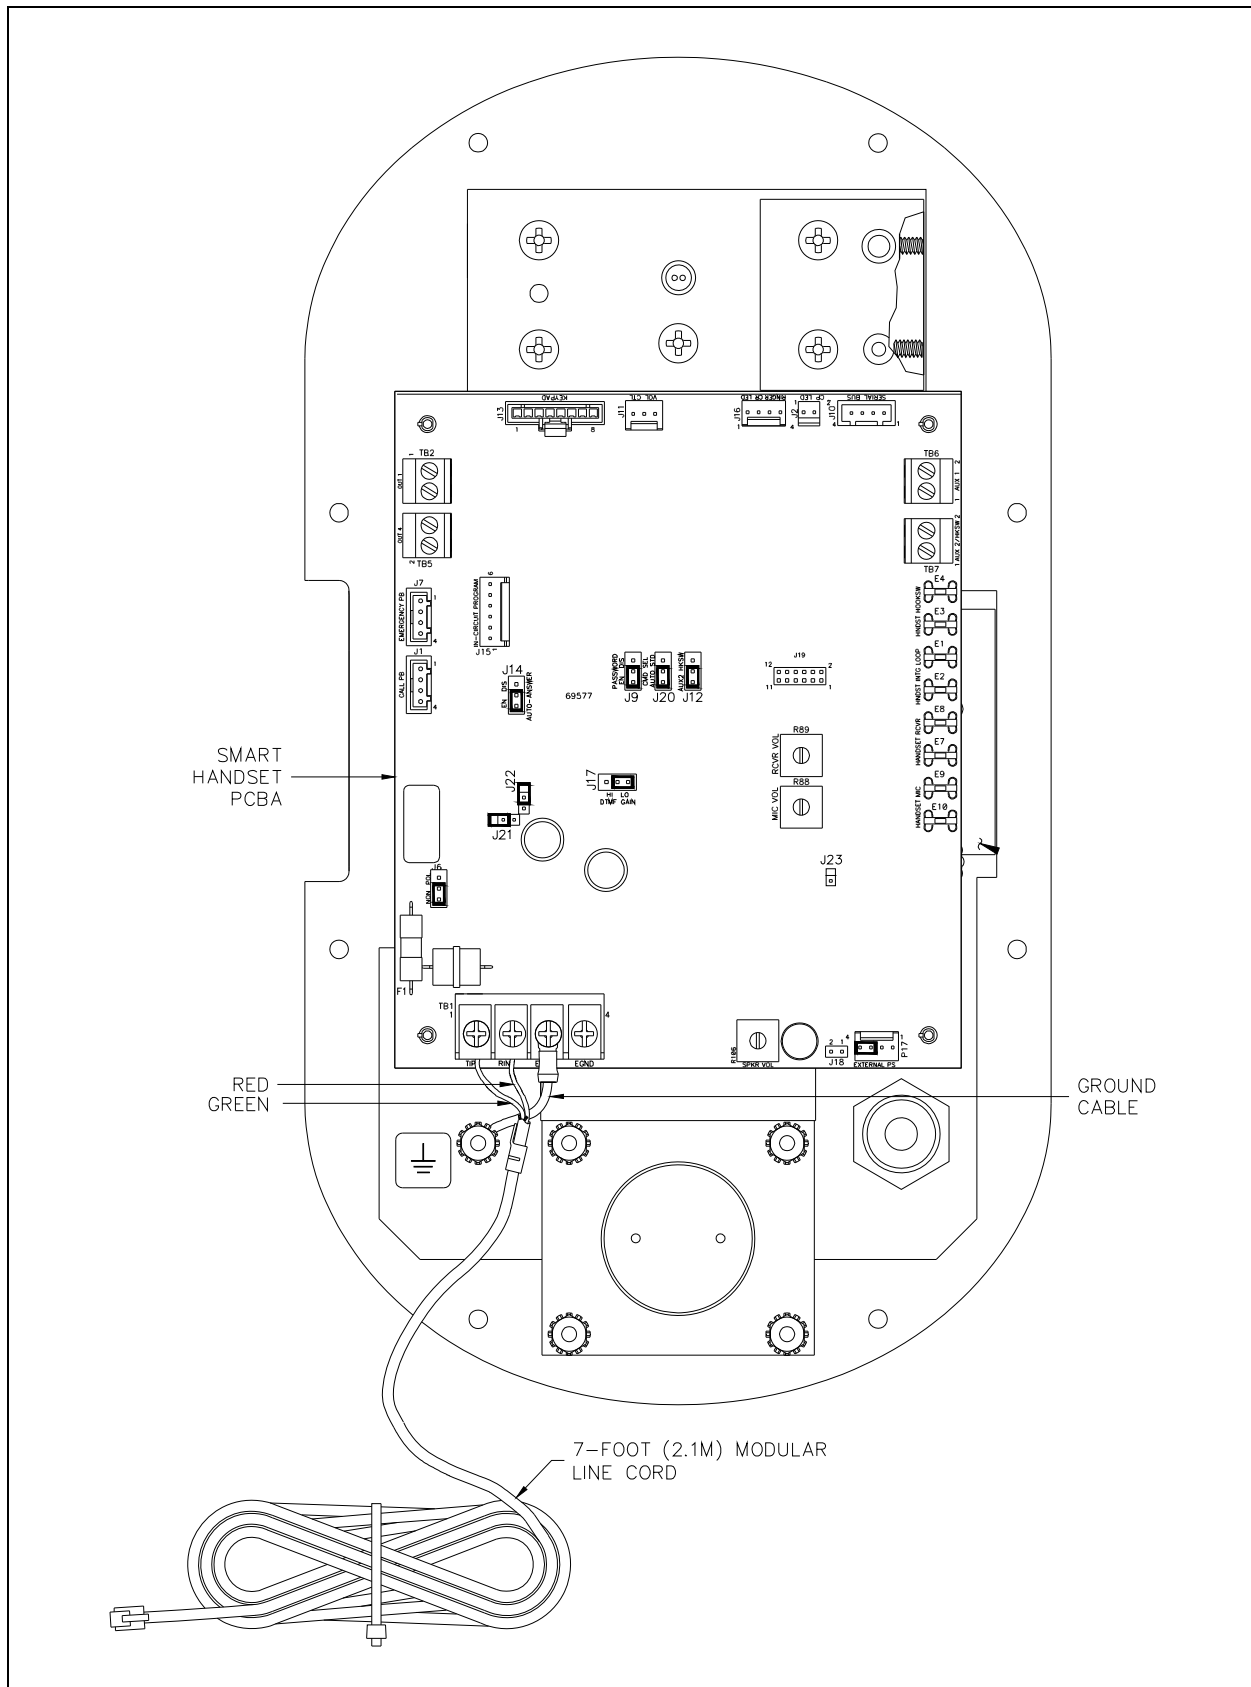

Figure 2. PCBA Connections for Models 226-005 and 227-005
1. Align the holes of the new PCBA with the snap-on nylon standoffs in the telephone, maintaining proper orientation. Refer to Figure 2 as an example.
5. If not previously installed, attach the ring lug of the (shorter) ground cable provided to the ground stud on the front panel; and the spade lug to terminal block TB1. See Figure 2.